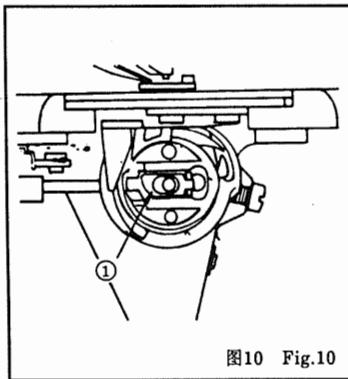

图10 Fig.10
8. 梭心套的取出和安装 图10
8. INSTALLATION/REMOVAL OF BOBBIN CASE Fig.10